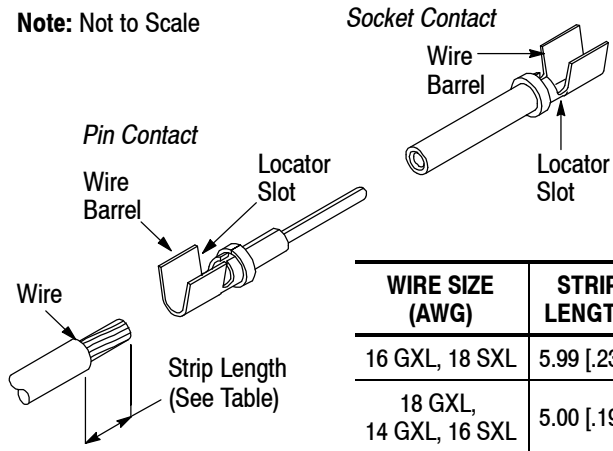

Figure 2
Select an applicable contact and a wire of appropriate size and insulation diameter. Strip the wire to the length indicated in Figure 2. DO NOT cut or nick the wire strands.
1. Select the maximum size wire for the tool and strip it to the dimension given in Figure 2.